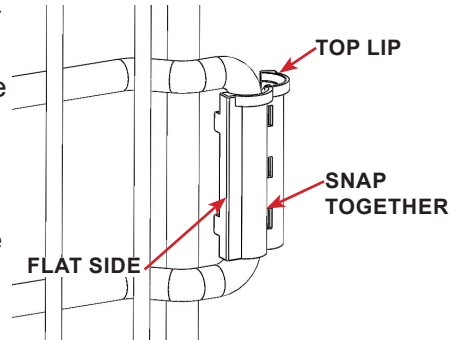

FIGURE 3.13 - Hinge Bushing Installation
STEP 10: Reinstall the hinge bushings with the larger end at the top. The top lip prevents the hinge bushing from sliding through the hinge assembly. Snap the two pieces together with the flat side of the bushings facing the cage door. See FIGURE 3.13